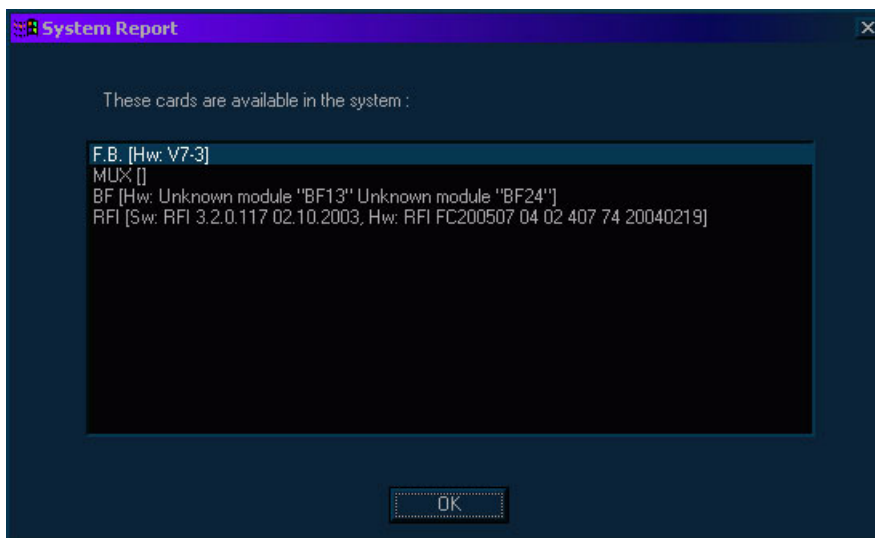
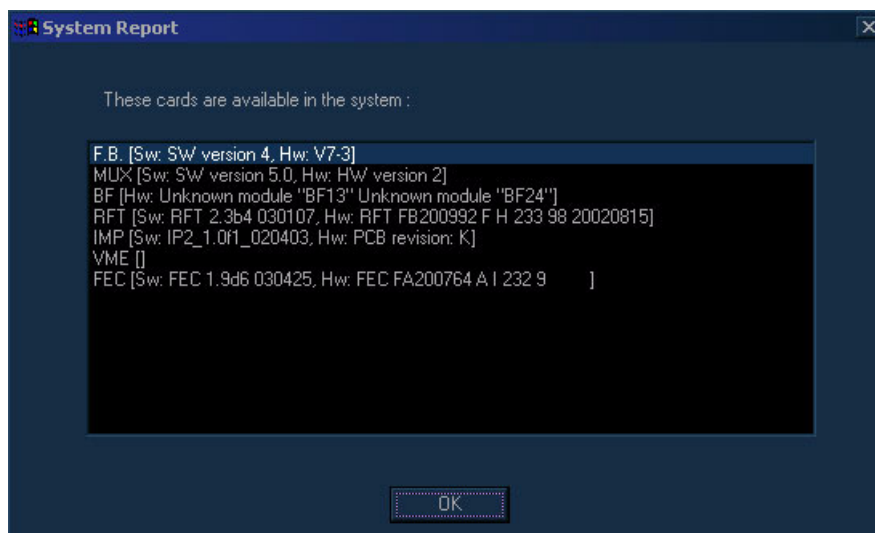

Figure 7-42 System Report Window (RFI-configured Systems)
Figure 7-43 System Report Window (RFT-configured Systems)
- 2) Trackball to the **H/W Report** button and press **Select**. The *System Report* window is displayed, as shown in Figure 7-42 (or Figure 7-43) below: